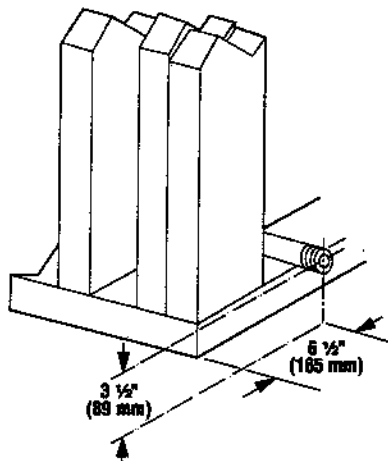

Figure 12
**Step 2.** Route a  $\frac{1}{2}$ " (13 mm) gas line along the left or right side framing Figure 12.